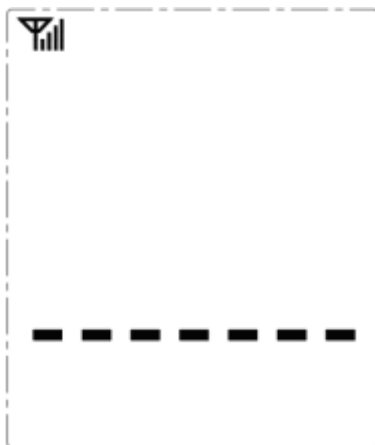

Fig. 4
2. On the monitor, press and hold down the **Linking** button (approx. 5 seconds) until the red light flashes, then release the button. When in signal searching mode, an antenna icon will flash at the top corner of the screen while simultaneously a progress histogram will appear on the screen (See Fig. 4, 5, 6).